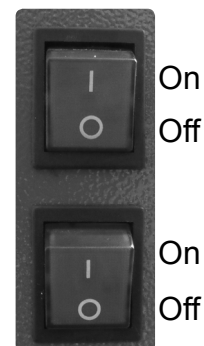

Fig.3
5.3 The heater has the following settings: See (Fig.3).
- a) Switch 'off' the heater at the on/off switches. As (Fig.3).